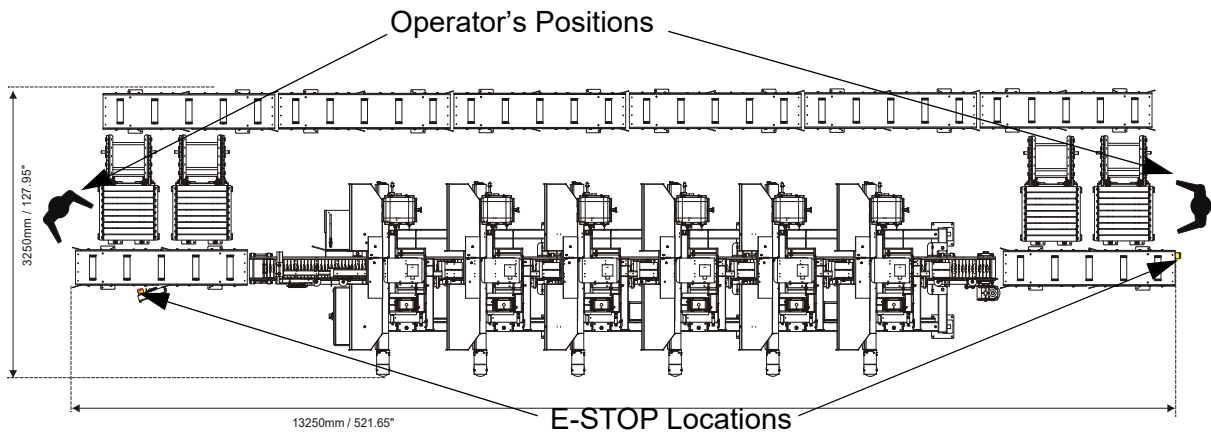

FIG. 2-6
**IMPORTANT!** Before starting to use any HR resaw equipped with return tables, move the control panel and the rear e-stop to the locations shown in the figures 2-6 to 2-11 (depending on the resaw configuration).
See Figure 2-6. Layout of the MRTHR6-M resaw (6-head HR for 1.5-3.6m (4.9- 11.8 ft) logs)